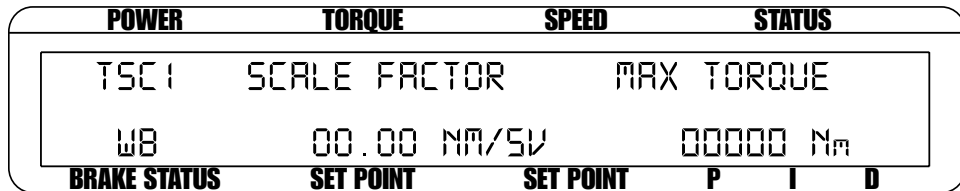

Figure 3–28 TSC1 Eddy-Current Setup Menu
6. Press SHIFT 2 times. The display should appear as shown in Figure 3–19 Nominal Speed Setup Menu.